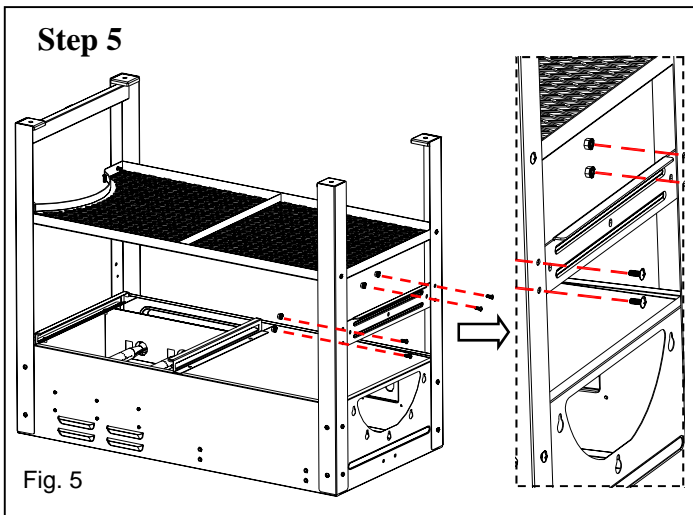

Fig. 5
Refer to Fig. 5 and Place the Fire Box Support Brace **BETWEEN** the Legs on the **RIGHT** side of the Cabinet, so that the **LEDGE** is at the **TOP** and facing through the Legs. Fasten to **BOTH** legs with (2) M6x15 bolts and (2) M6 KEPS nuts on each Leg